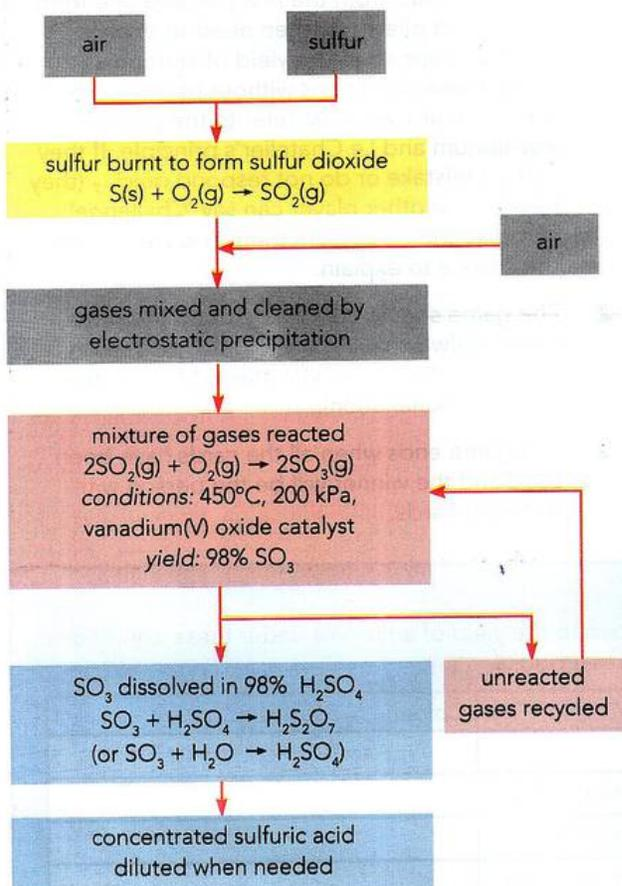

Figure 9.14: Flow chart for making sulfuric acid by the Contact process.
The sulfur dioxide is then mixed with air and cleaned before passing into the reactor tower containing the trays of catalyst pellets (vanadium(V) oxide, V_2O_5) (Figure 9.14).